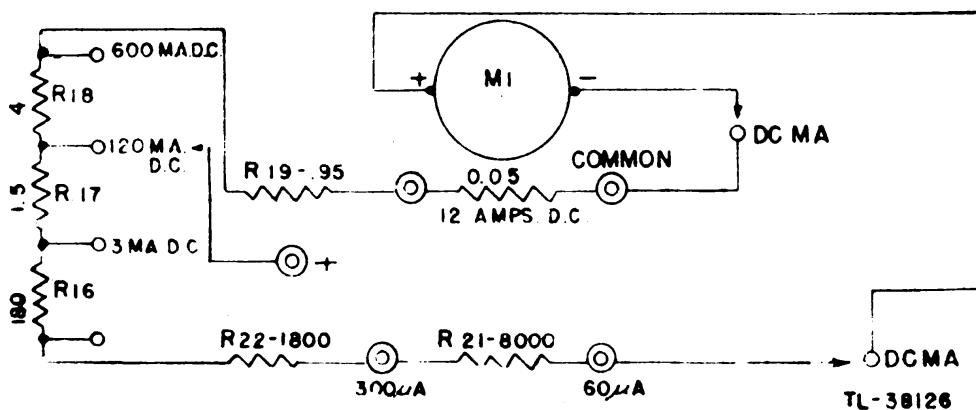

Figure 11. Test Set I-179, simplified D.C. amps. circuit.
15. TEST SET I-179 AS A D-C MILLIAMMETER (fig. 11).